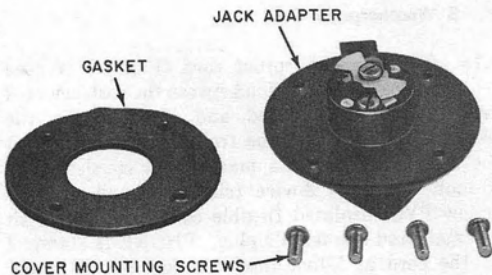

Fig. 58—B Weatherproof Female Jack Adapter
3.12 The B weatherproof female jack adapter (Fig. 58 and 59) mounts on an existing KS-8421 jack housing after the old jack and front plate are removed. It will receive the male plug of the B or C weatherproof cord to provide telephone service to recreational vehicles or boats. A spring-loaded hinged cover protects the jack from weather when not in use. A rubber boot on the mating connector of the cord provides a weatherproof seal when in use. Three screw terminals on rear of jack stamped T, R, and GR provide connections.